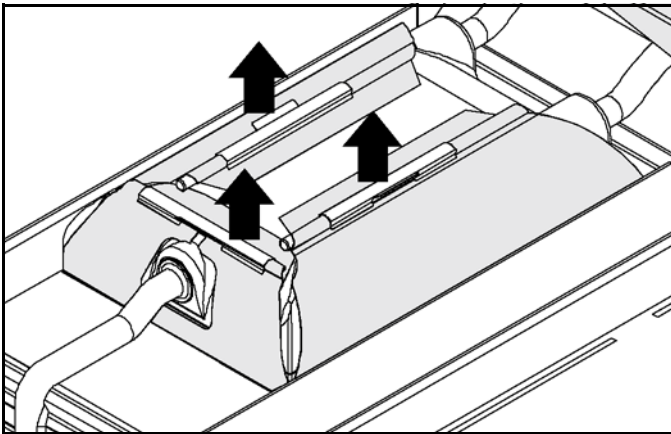

Figure-106
12. Remove the release sheet locking clips and the upper and lower release sheets. Wash and rinse the clips in the three-compartment sink. If necessary, soak them in a hot solution of SolidSense APSC to remove carbon accumulation. See Figure-106.